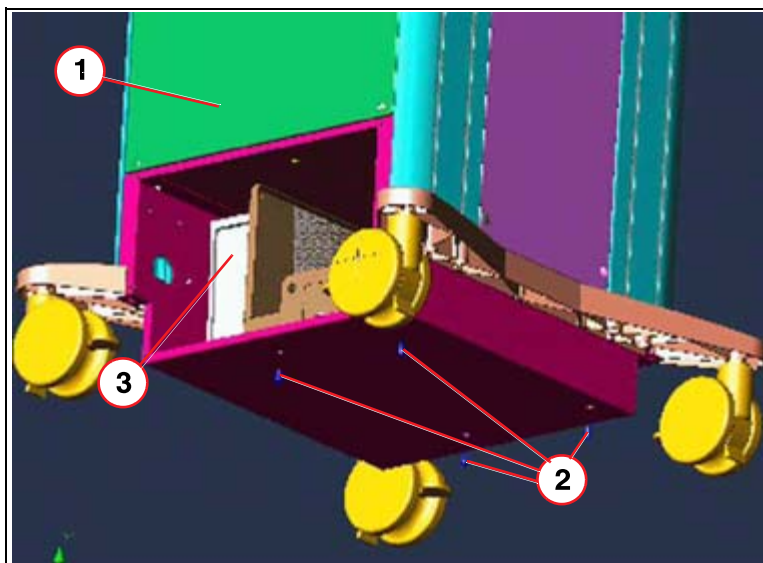

Fig. 39: Power supply
4. Unscrew the 4 screws from the rear cover and remove the cover (1/ Fig. 39 / p. 81)
5. Unscrew the 6 screws from the lower rear cover and remove the cover (cover already removed in (Fig. 39 / p. 81)).
6. Unscrew the 4 Allen screws (2/ Fig. 39 / p. 81) for the power supply component.